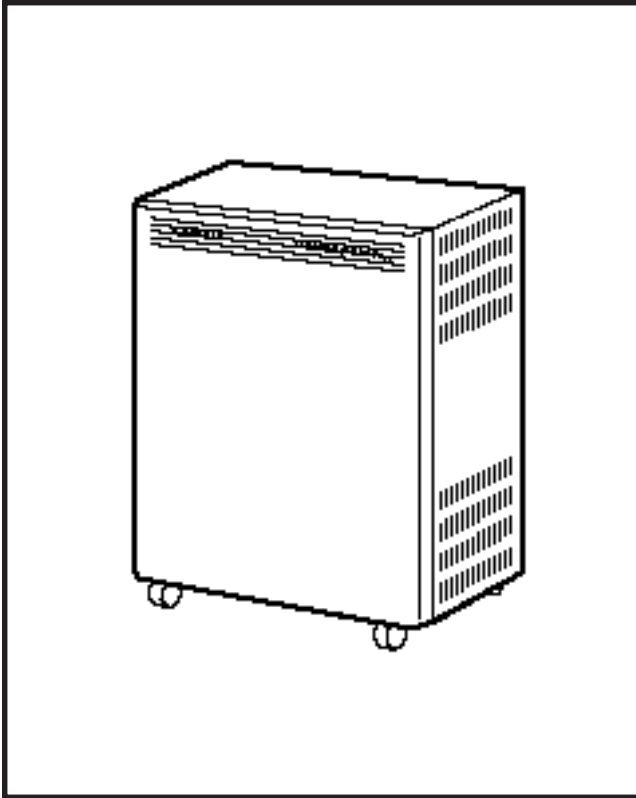

FIGURE 2-3—PERCEPTIONex BASIC CABINET
2.01 The basic equipment cabinet (LCEC-M) is a single free-standing cabinet mounted on casters for easy movement. The cabinet contains three shelves for printed circuit card installation. A separate area is provided for power supply and peak load battery installation. MDF connections are facilitated by amphenol connectors located on the rear of the cabinet (Figure 2-3).